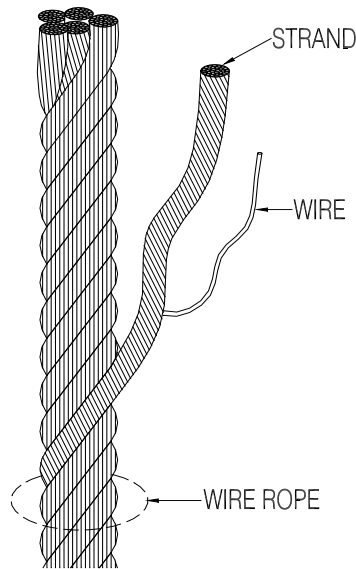

Figure 5-1.
- (b) Six randomly distributed broken wires in one rope lay. A rope lay is the length of rope along which one strand makes a complete revolution around the rope. See **Figure 5-1**. If a broken wire or wires are localized in the end attachment of an operating rope and making a new attachment can eliminate this condition, this may be done instead of replacing the entire rope. Keeping the rope clean and wound evenly on the wire rope drum will increase its life and efficiency.